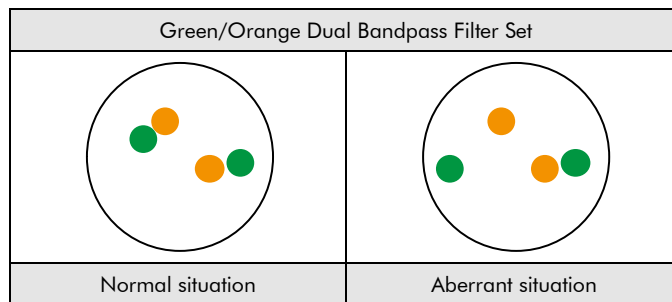

Fig. 2: Expected results in normal and aberrant nuclei
**Normal situation:** In interphases of normal cells or cells without a translocation involving the CREBP gene region, two green/orange fusion signals appear (see Fig. 2).
**Aberrant situation:** One CREBP gene region affected by a translocation is indicated by one separate green signal and one separate orange signal (see Fig. 2).